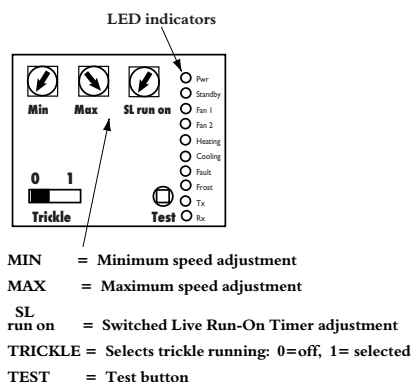

Fig. 6. External commissioning box details
2. Using the Test button (see fig 6)
3. LED indication (see fig 6)